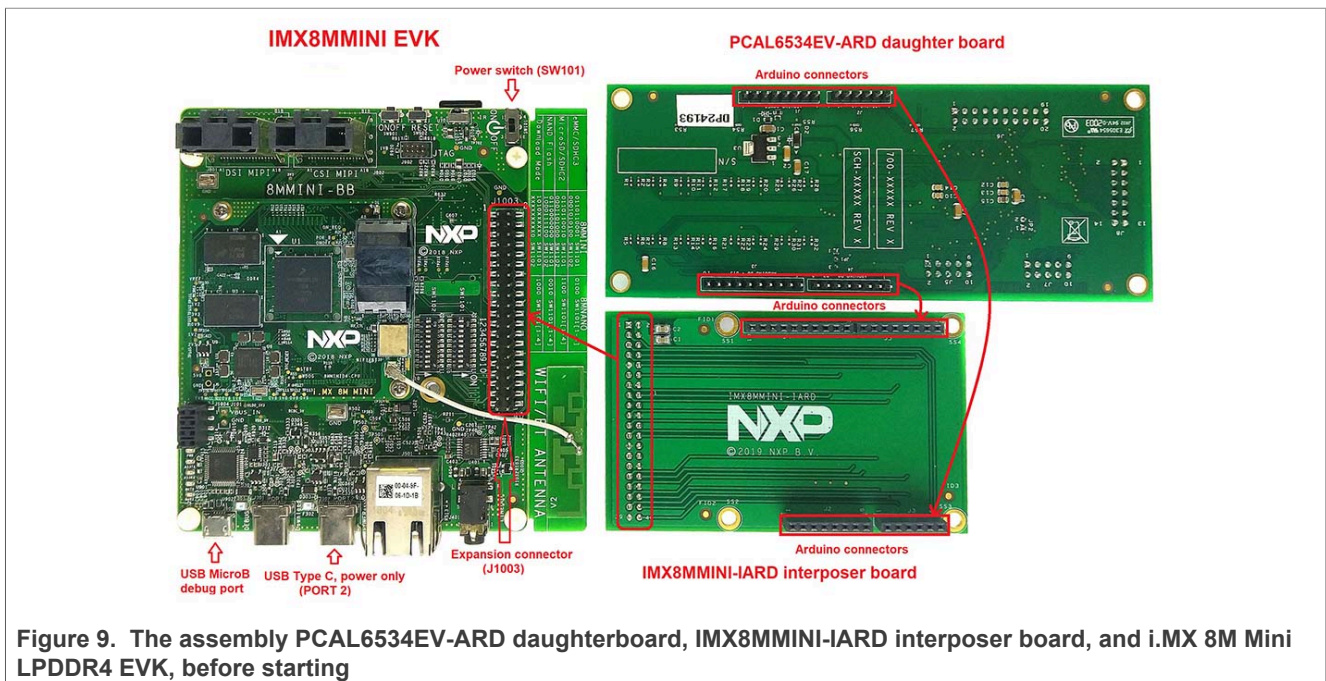
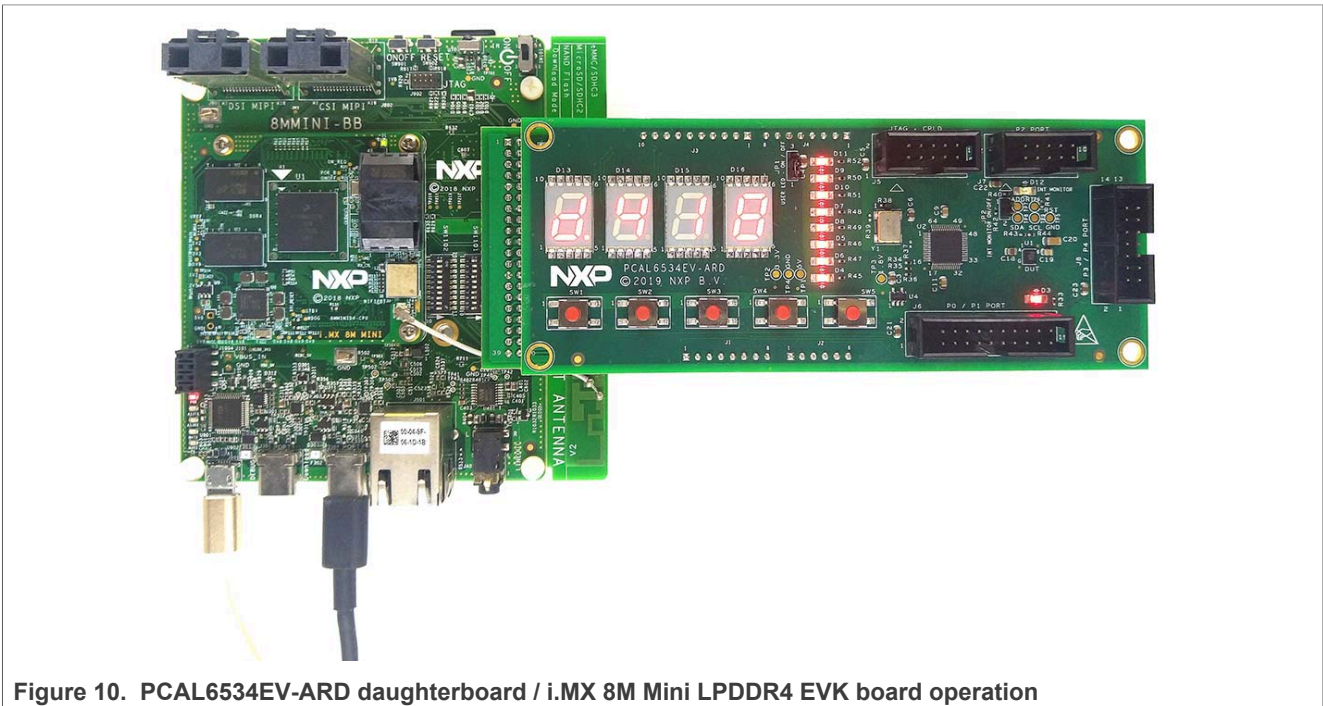

Figure 9. The assembly PCAL6534EV-ARD daughterboard, IMX8MMINI-IARD interposer board, and i.MX 8M Mini LPDDR4 EVK, before starting
Figure 10. PCAL6534EV-ARD daughterboard / i.MX 8M Mini LPDDR4 EVK board operation
To operate the setup, along with the EVK and the daughterboard, a third board must be included in the setup assembly. Figure 9 shows the necessary boards and how these boards are connected. The configuration consists of:
To power-up the EVK, an USB-C type cable connected to PORT 2 of the EVK is used. The power switch SW101 on the EVK board must be set to ON position to power-up the setup. Data communication is achieved by routing a separate USB (Micro-B type) cable from an USB port on the PC to debug port (J901) on the EVK (see Figure 9 and Figure 10).
2. Attach IMXMMINI-IARD connector plug J1 (located on the bottom of the board) into J1003 expansion board located on the top side of i.MX 8M Mini LPDDR4 EVK (see Figure 9)
- **Select Board:** allows the user to select the correct daughterboard (the application can support four different boards). In Figure 10, the selected board is PCAL6534. Selecting a wrong daughterboard causes the connection to fail and a pop-up window with the message: *“Unable to Connect with Daughter Card”* appears on the screen.